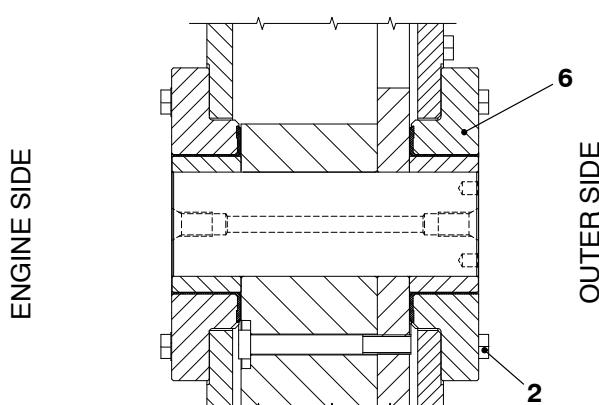

Fig. 9
- Do not install the two taper pins (8, Fig. 9).
- 11) Install four (of eight) bolts M20x70 (2, Fig. 9) without tightening.